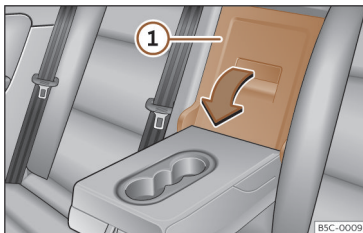

Fig. 183 On the rear seat backrest: opening the tailboard.
- Pull the release lever in the direction of the arrow and push the tailboard cover >>> Fig. 183 ① down and forwards.